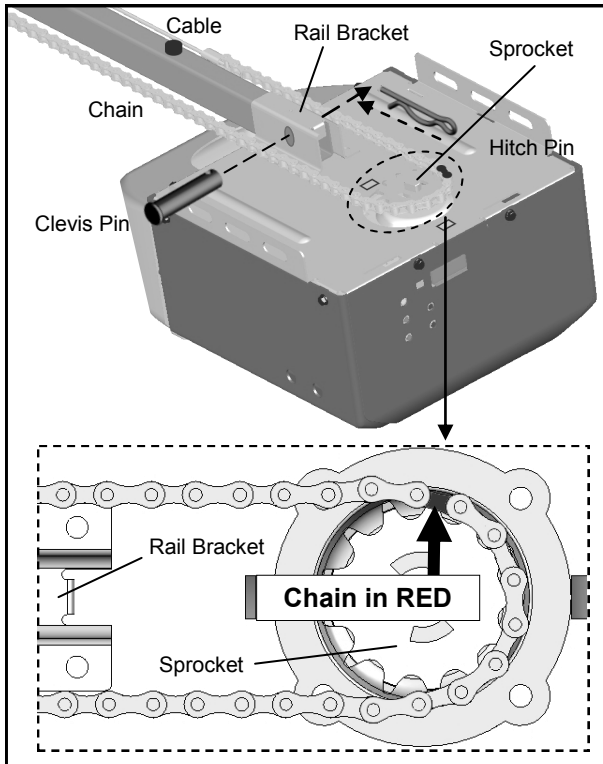

Fig.1
3. Slide the trolley onto the rail from the header segment. Make sure the arrow is pointing towards the door as shown in Fig.1.
2. A segment of chain marked in RED will be seen. Place this segment in the approximate location on the sprocket as shown in Fig.1.